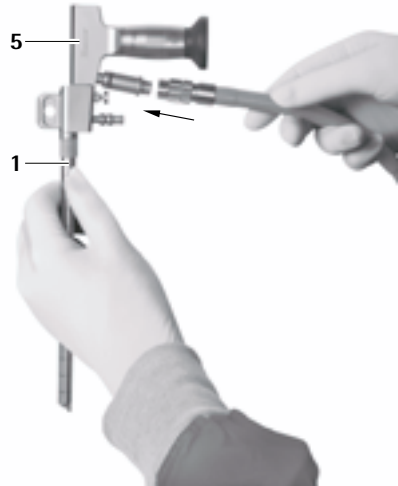

Fig. 3
- Connect light cable and camera, see Fig. 3–5.